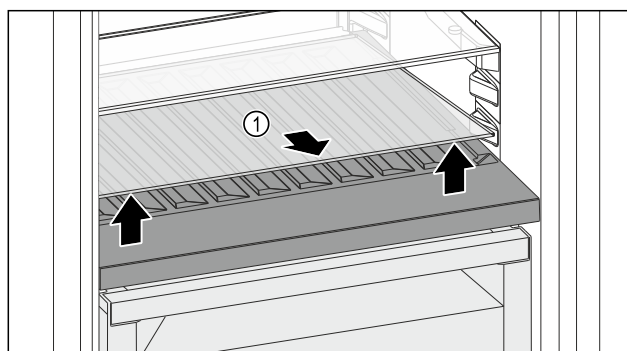

Fig. 138
- ▶ Lift the glass shelf Fig. 138 (1) at the front and remove.
- ▶ Store the glass shelf Fig. 138 (1) in a safe place outside the appliance.